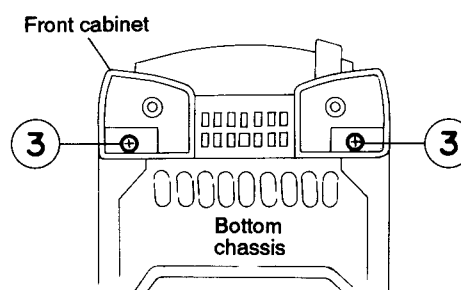

Fig. 5-3
1. After turning the body upside down, remove the two screws ③ retaining the front cabinet assembly (See Fig. 5-3).